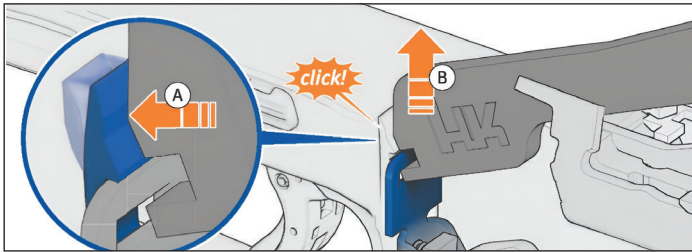

Figure 46 – Convert push button
5. Remove the push button by sliding it out of the pistol grip frame (Figure 46).